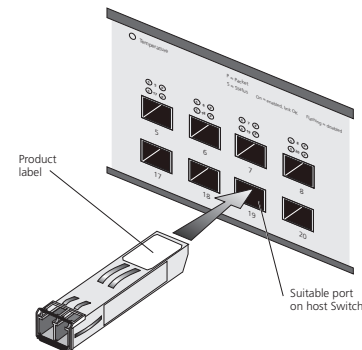

Figure 1 Inserting the Transceiver (for example purposes only, this figure shows a 1000BASE-SX SFP Transceiver)
- 2 Hold the transceiver so that the connector is toward you and the product label is visible. Ensure the wire release lever is closed (in the upright position). See Figure 1.